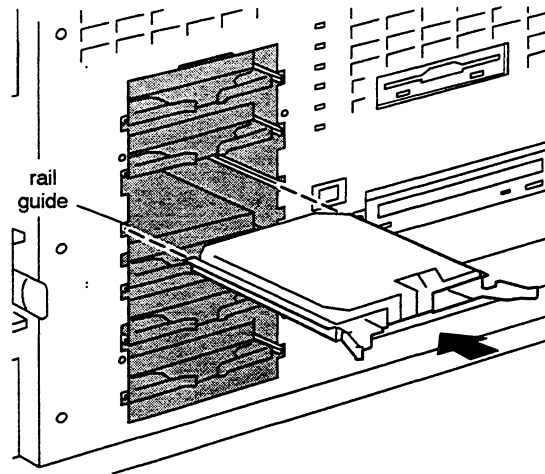

Figure 3-8 Aligning guide rails with the hot-swap guides
8. Align drive rails with hot-swap cage guides as shown in Figure 3-8.